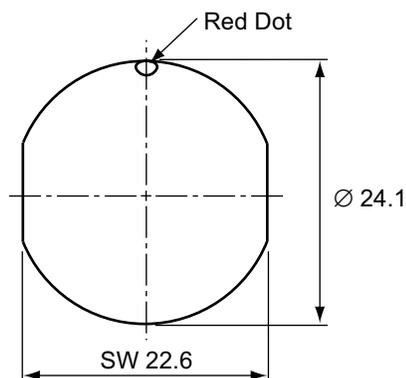

Figure 2-2. Panel Cut-out Dimensions
2. If you are using an equipment cabinet, the adapter cable connector can be bulkhead-mounted to the inside wall. See Figure 2-2 Panel Cut-out Dimensions.